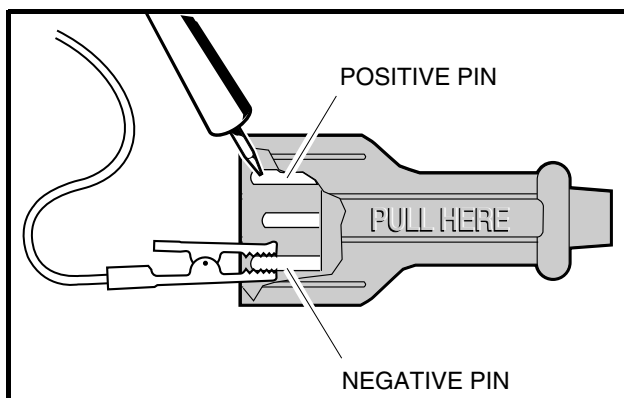

Figure 14-14 DC Plug Test Leads
1. Using a continuity tester (Club Car Part No. 1011273) or multimeter set to 200 ohms, connect the test leads to the pins marked (+) and (-) on the DC plug (**Figure 14-14, Page 14-16**) and note the readings.